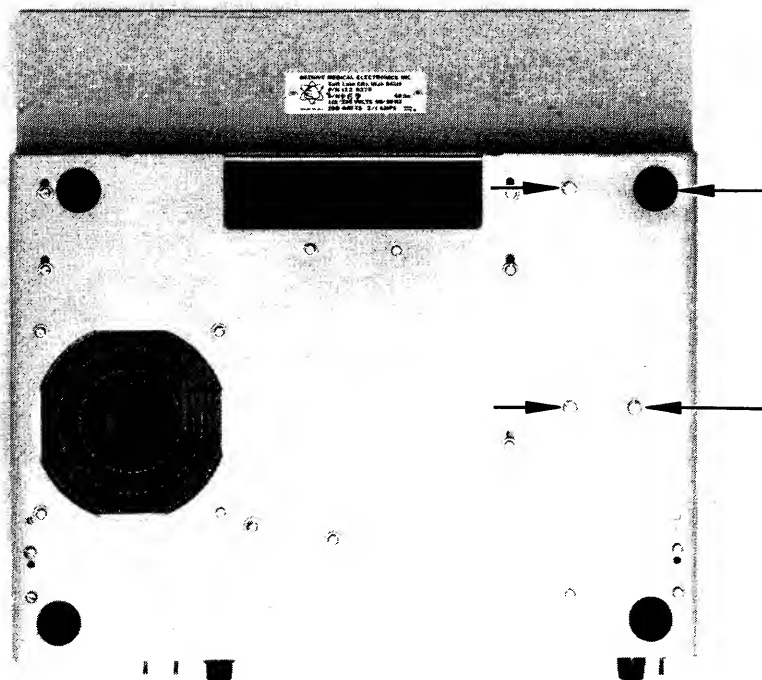

Figure 5-13. Power Supply Assembly Mounting Bolts
- e. Remove the three large (No. 10) bolts located on the bottom that secure the POWER SUPPLY to the terminal base (see Figure 5-13).